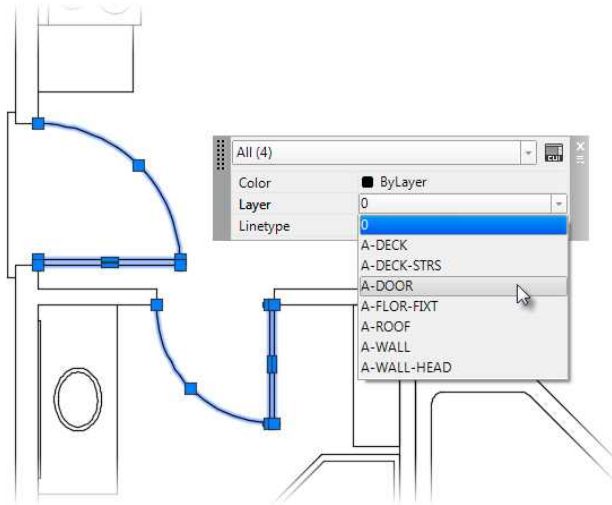

FIGURE 6.25: Using the Quick Properties panel's Layer drop-down list to change the layer of the door objects
4. Select the four rectangles that make up the closet doors. Then open the Layer drop-down list from either the Layers panel or the Quick Properties panel and select the A-DOOR layer, as shown in Figure 6.25.